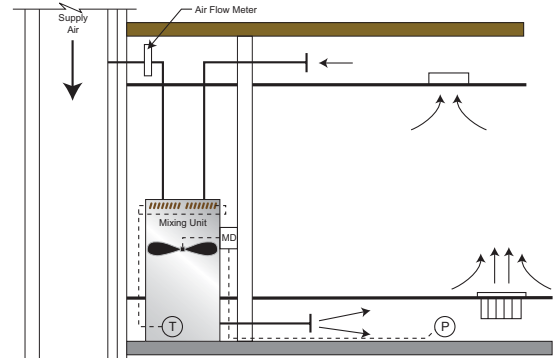

Figure 2
1. Air is supplied by an air handling unit that is placed on the roof. The 63°F to 65°F air is supplied through a duct shaft located near the center of the building. Some climates may require the air to be cooled further and then mixed with return air to meet the required temperature of 63° F to 65° F. (Refer to Figure 2.)